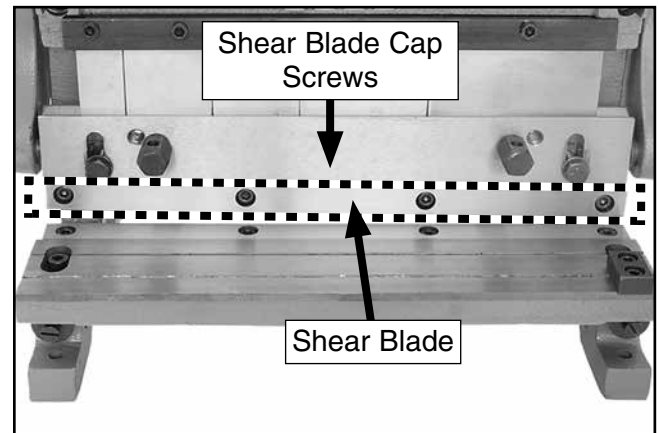

Figure 47. Shear blade cap screws.
2. Remove shear blade cap screws (see **Figure 47**) and carefully remove shear blade from machine.